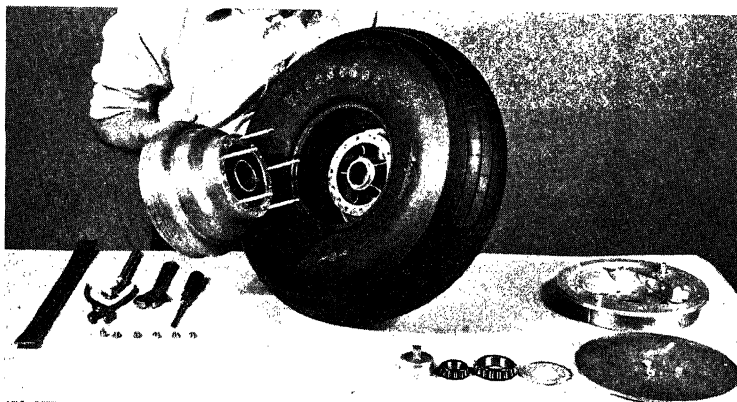

FIG. 18.—Putting the inboard side of the wheel in place.
5. Hold the assembled tire and outboard part of the wheel with one hand, and the inboard part of the wheel with the other hand, as shown in Fig. 18.